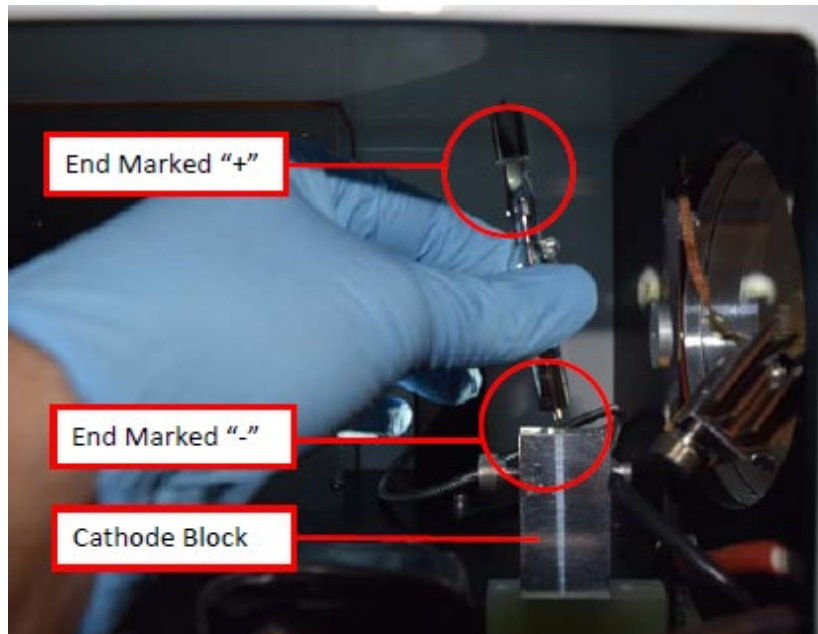

Figure 12. Inserting the Xenon UV Source into the Cathode block.
1. Insert the Cathode (-) end of the Xenon UV Source into the Cathode Block (see Figure 12). The Cathode end of the UV Source is marked with (-).